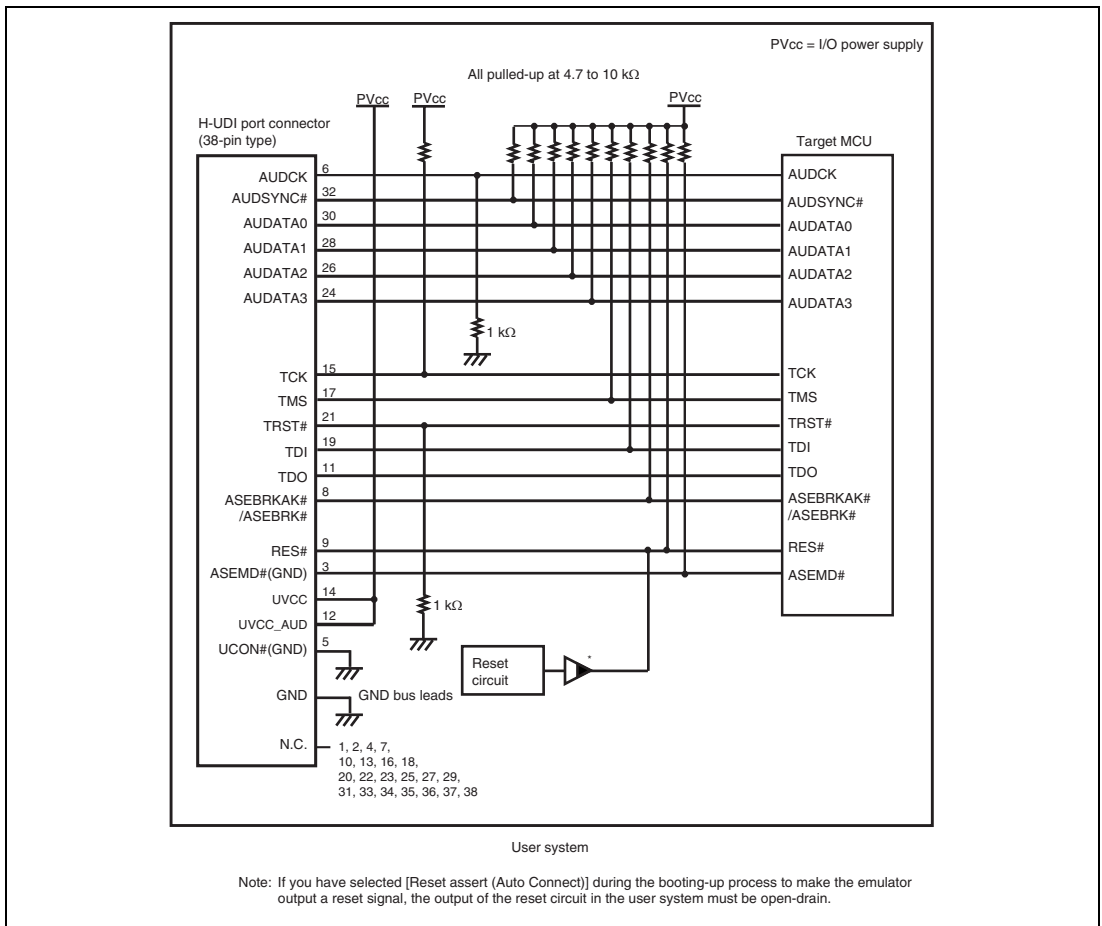

Figure 1.10 Recommended Circuit for Connection between the H-UDI Port Connector and MCU when the Emulator is in Use (38-Pin Type)
Figure 1.10 shows a recommended circuit for connection between the H-UDI and AUD port connectors (38 pins) and the MCU when the emulator is in use.
- (1) When the emulator is used: ASEMD# = 0
- (2) When the emulator is not used: ASEMD# = 1Figure 1.10 shows an example of circuits that allow the ASEMD# pin to be GND (0) whenever the emulator is connected by using the user system interface cable. When the ASEMD# pin is changed by switches, etc., ground pin 3. Do not connect this pin to the ASEMD# pin.
7. The resistance value shown in figure 1.10 is for reference.
When the circuit is connected as shown in figure 1.10, the switches of the emulator are set as SW2 = 1 and SW3 = 1. For details, refer to section 3.8, Setting the DIP Switches, in the SuperH™ Family E10A-USB Emulator User's Manual.